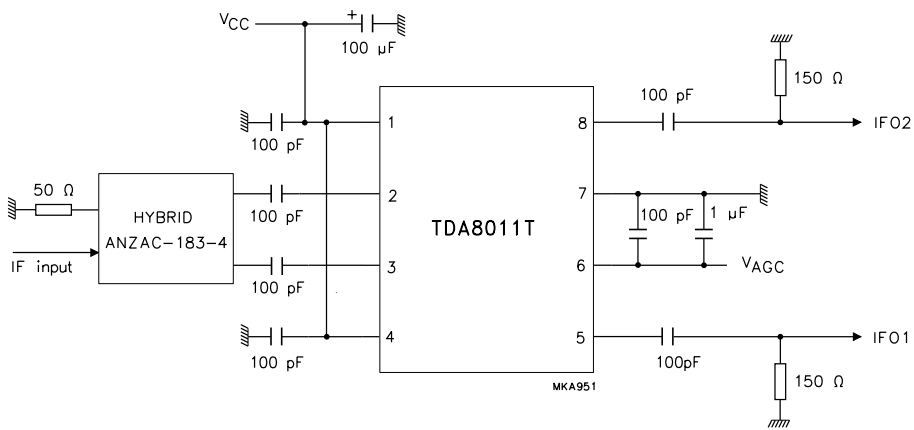

Fig.6 Application circuit.
$V_{CC} = 5\text{ V}$; $f_i = 70, 480\text{ and }610\text{ MHz}$; $T_{amb} = 25\text{ °C}$; measured in application circuit of Fig.6; unless otherwise specified.
- The unmatched noise figure (F) is measured at f_i = 480 MHz in the application circuit (see Fig.6). With the hybrid coupler used, the equivalent source impedance is equal to 100 Ω.